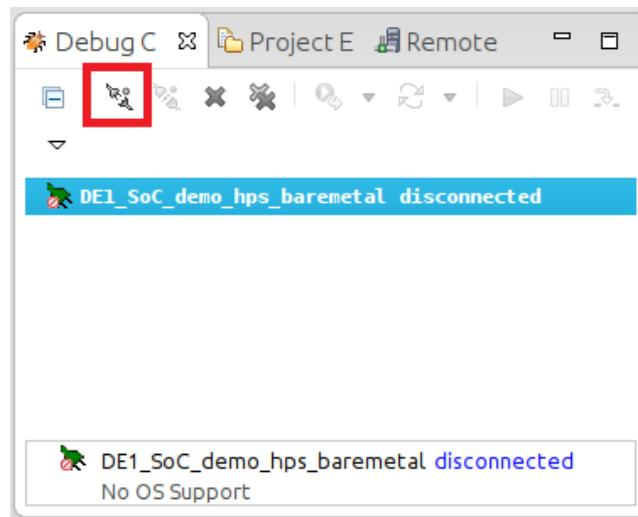

Figure 12-14. Debug Control View
21. In the "Debug Control" view, click on the "DE1\_SoC\_demo\_hps\_baremetal" entry, then click on the "Connect to Target" button, as shown on Figure 12-14. Our debug script will load and execute the preloader, then it will load and wait at our application's "main()" function.